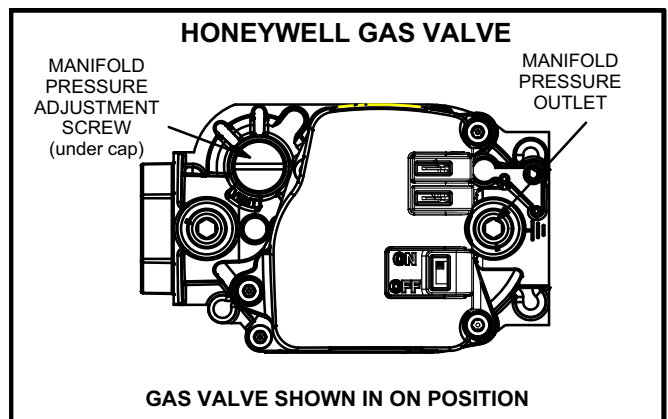

FIGURE 3
When testing manifold gas pressure, use the 1/8" N.P.T. plugged tap (manifold pressure outlet) located on the gas valve to facilitate test measuring device. Figure 3 shows location of manifold pressure outlet. Use the provided fittings and tubing to follow the steps below.
- 5 - If necessary make adjustment. See figure 3 for manifold pressure adjustment screw.